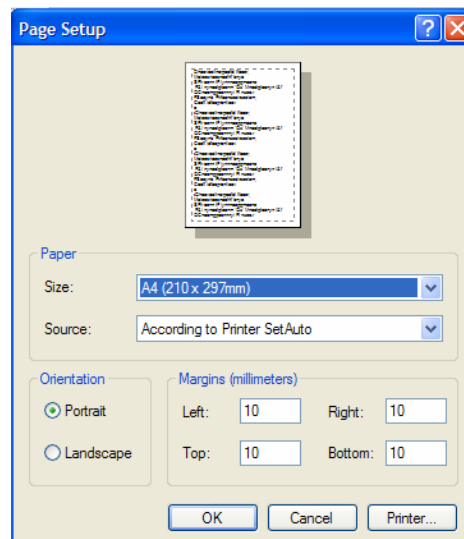

Figure 2.23
- Choose the preferred setting in the “Page Setup”. Choose “Landscape” at the Orientation section and click “Ok”. Please refer to Figure 2.23